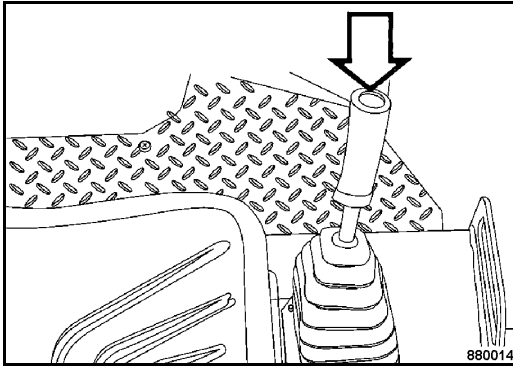

Fig. 102
- Switch the chip spreader on and off with the vibration button (Fig. 102).